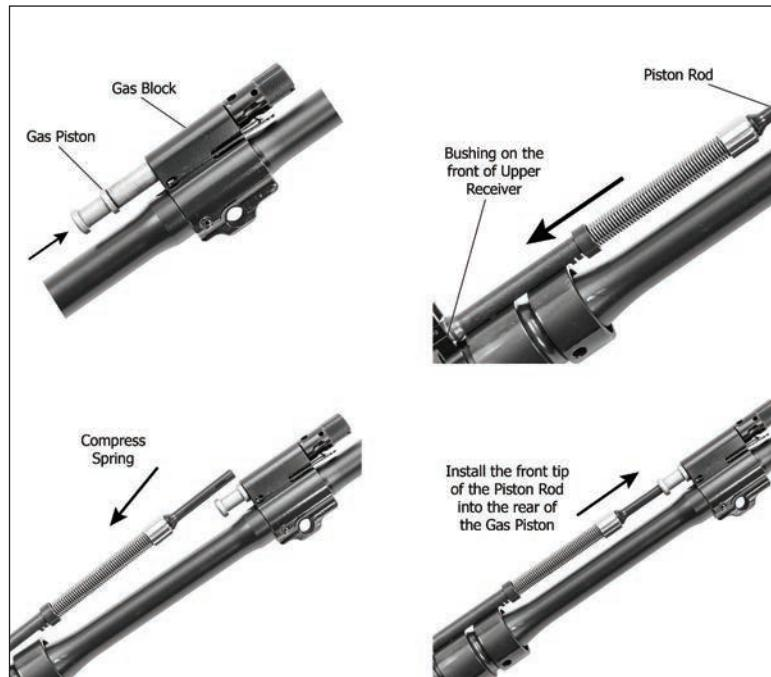

Fig. 31 – Reinstalling the Gas Piston and the Piston Rod
a. Install the gas piston into the back of the gas block (Fig. 31).